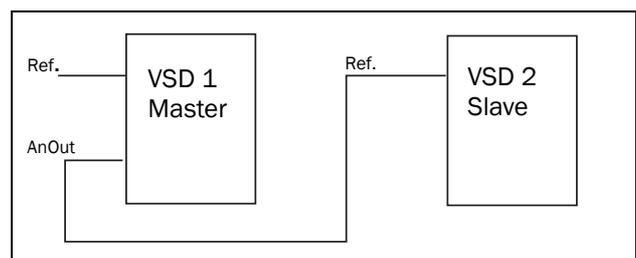

Fig. 93
- a reference signal for the next VSD in a Master/Slave configuration (see Fig. 93).